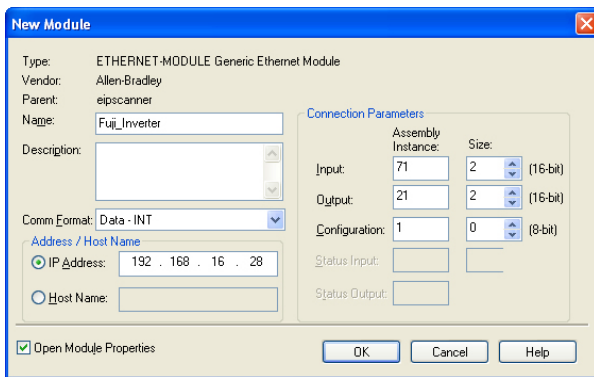

Figure 94: AC/DC Drive Profile Generic Ethernet Module Configuration
- 1) Complete all the steps in section 8.2.4. Please note that the Assembly Input Instance must be changed to 71 and the Assembly Output Instance must be changed to 21. Refer to Figure 94.